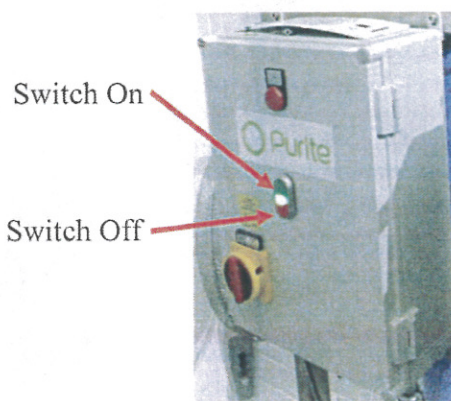

Figure 11: Filtration raft Control Panel, the location is shown in Figure 12:
6.8.2. **Switch Off Filter Unit.** Switch off the filtration raft at the control panel by pressing the red button, as identified in Figure 11:
- 6.8.17. **Switch On Controller.** Switch on the Control Panel by pressing the green button shown in Figure 11:
- 6.9.1. **Switch Off Filter Unit.** If replacing the 20" 0.2µm Filter, switch off the filtration unit at the control panel by pressing the red button, as identified in Figure 11:
- 6.9.12. **Re-Start Filtration Unit.** If replacing the 20" 0.2µm Filter, switch on the filtration unit at the control panel by pressing the green button, as identified in Figure 11: